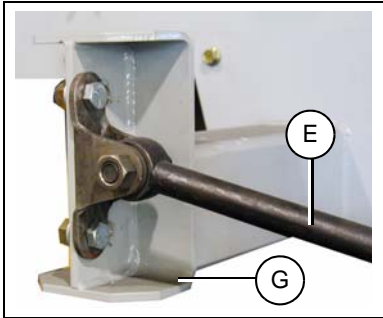
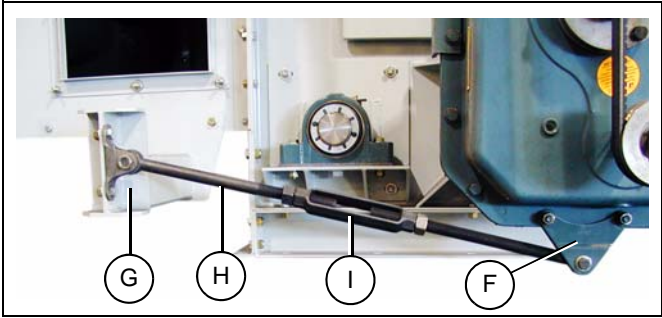
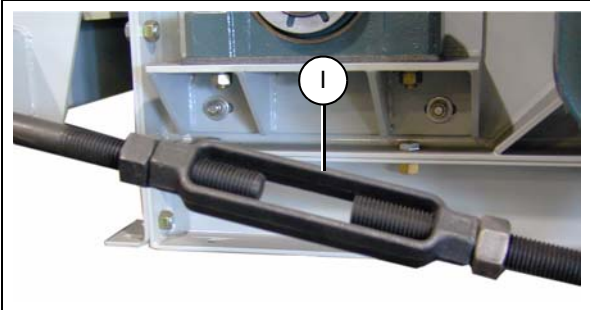

Figure 5F
Figure 5G
Figure 5H
- 7. The torque arm bracket is mounted under the first intermediate section. Locate bracket by matching an existing set of holes in the intermediate side that allows the turnbuckle assembly to be as short as possible with the reducer in a vertical position. (See Figure 5F, Figure 5G and Figure 5H.)